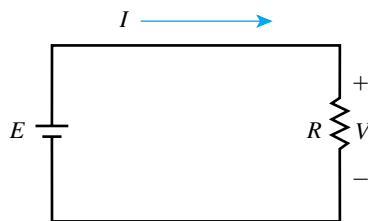

FIGURE 4–33
- For the circuit of Figure 4–33, determine the current I for each of the following. Express your answer in the most appropriate unit: amps, milliamps, microamps, etc.